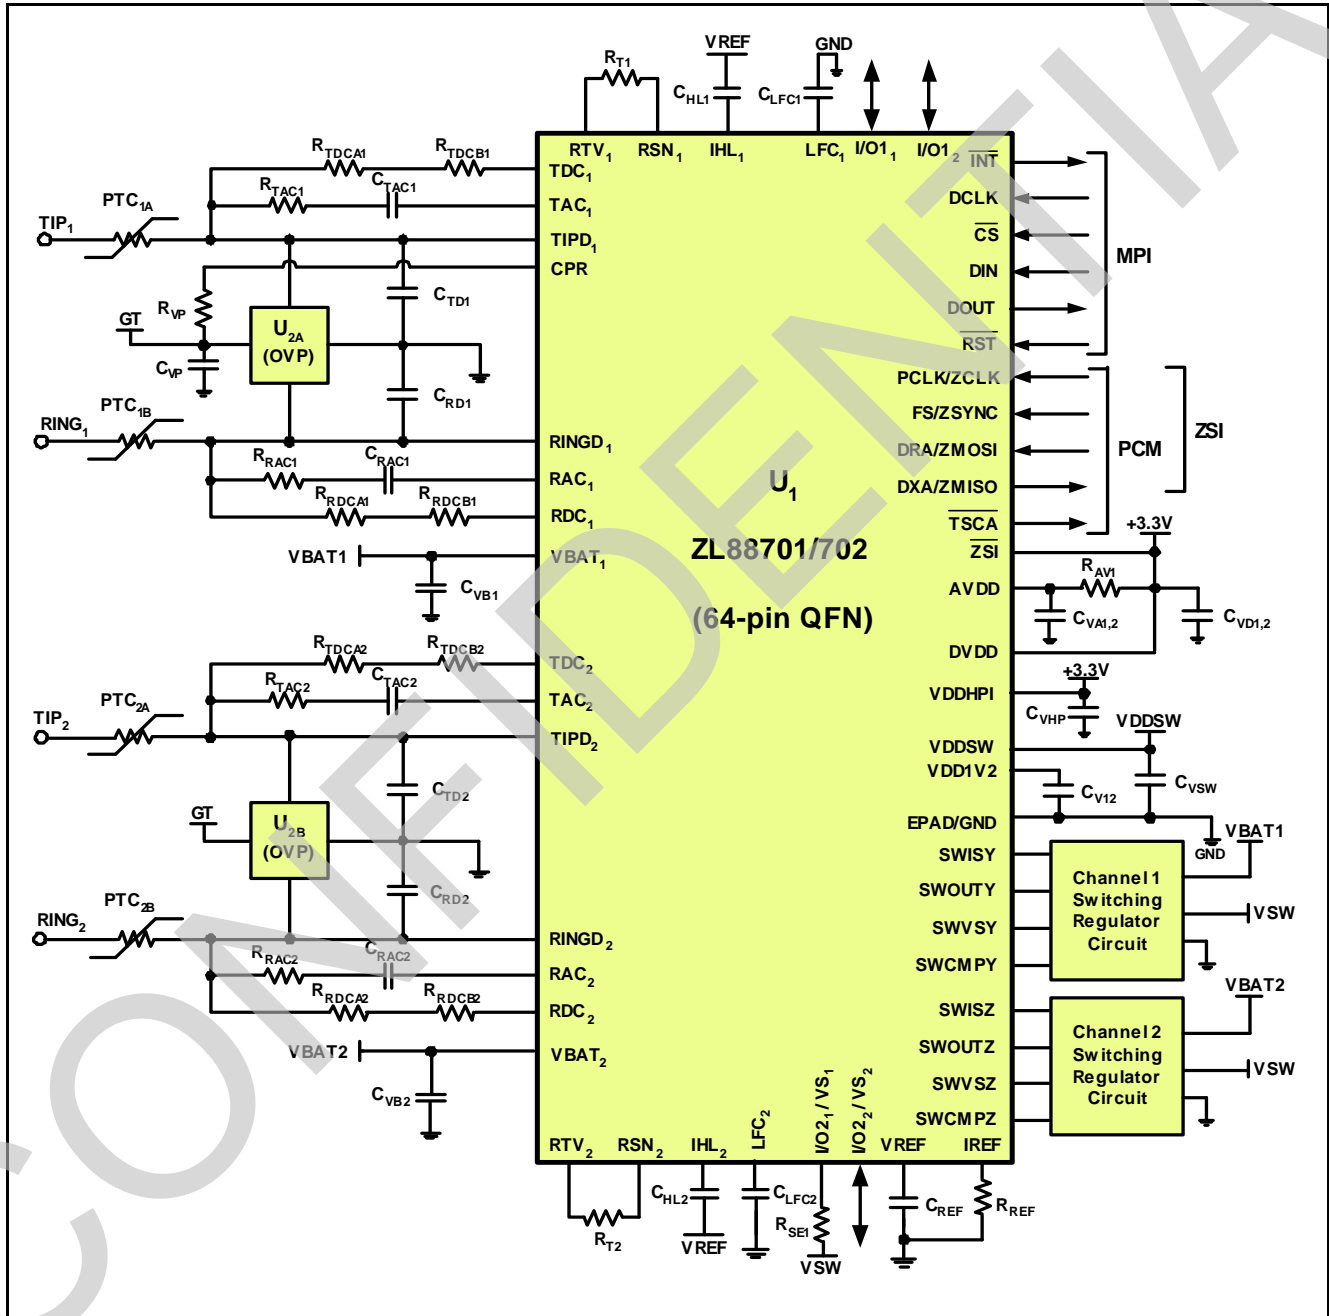
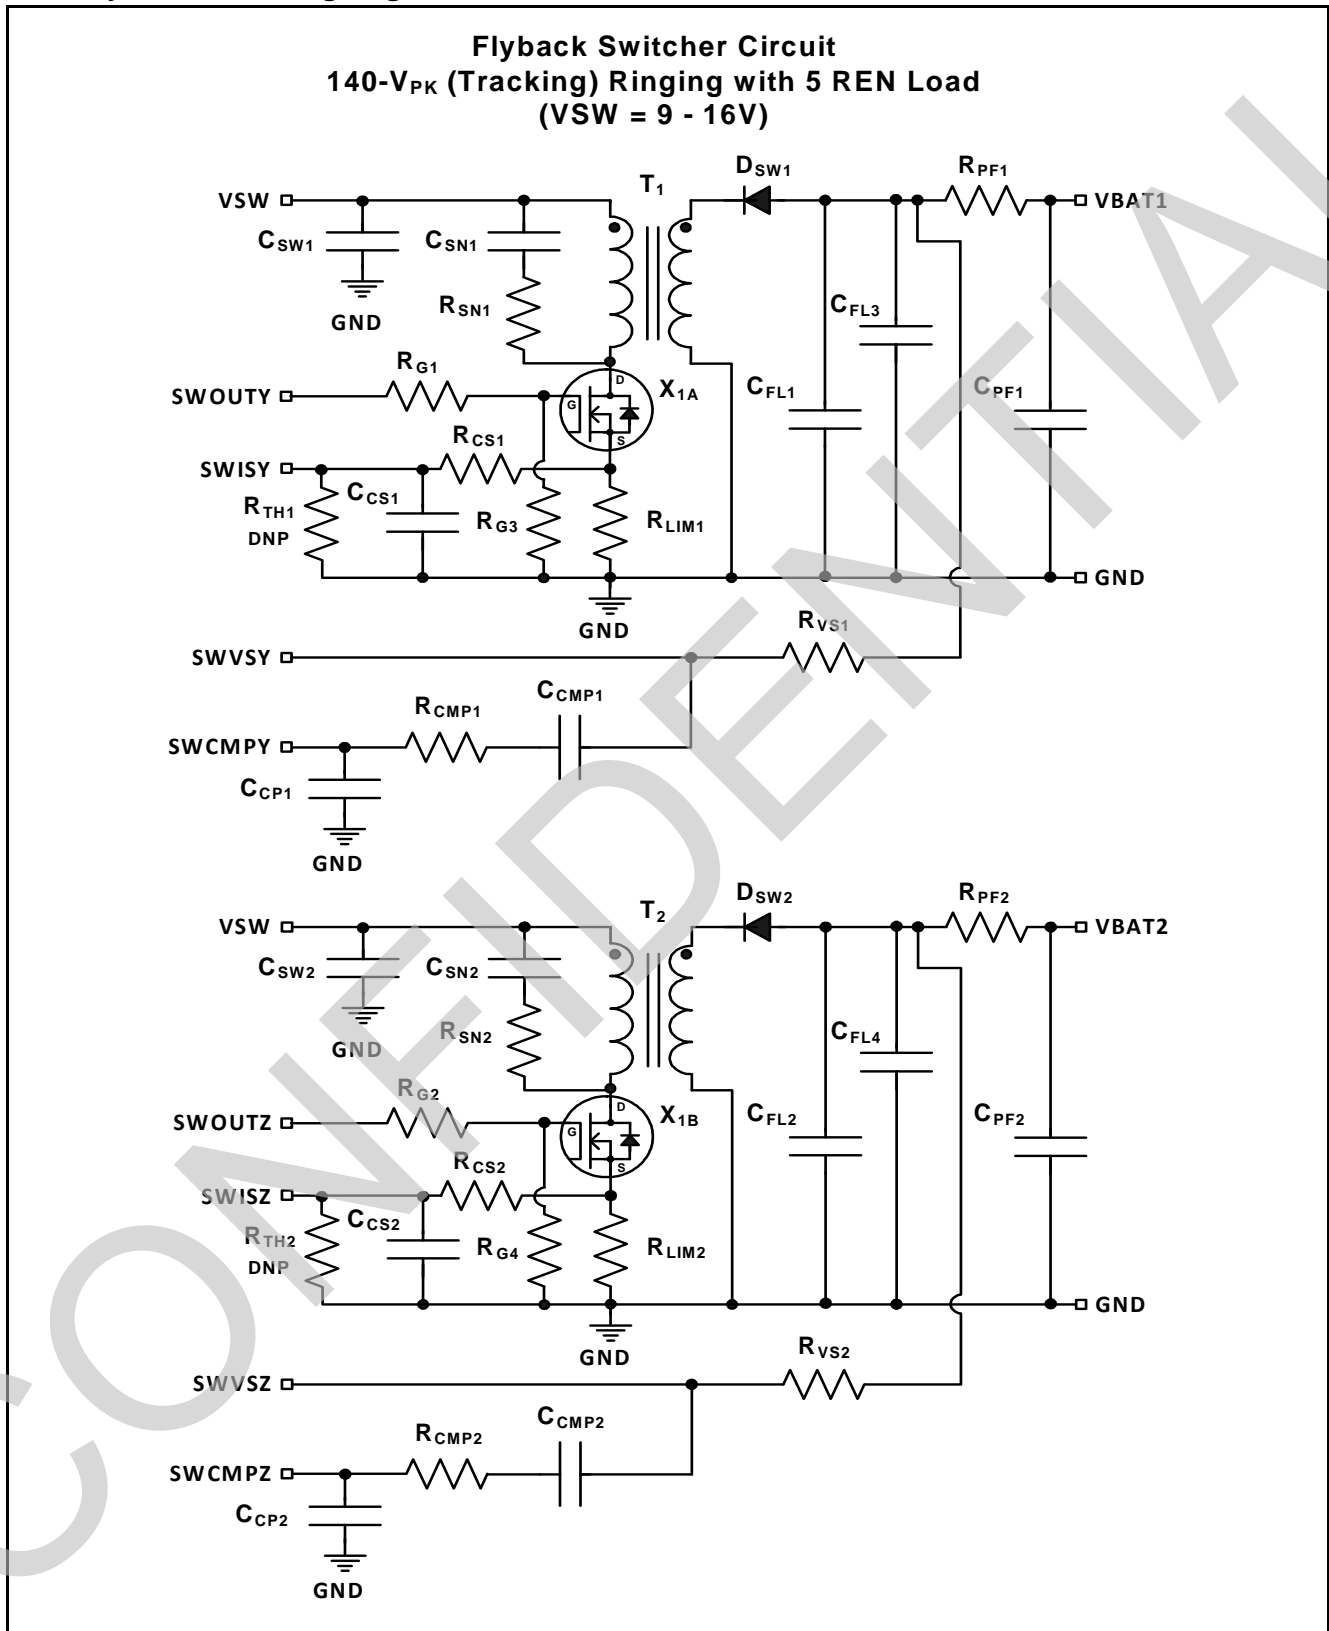
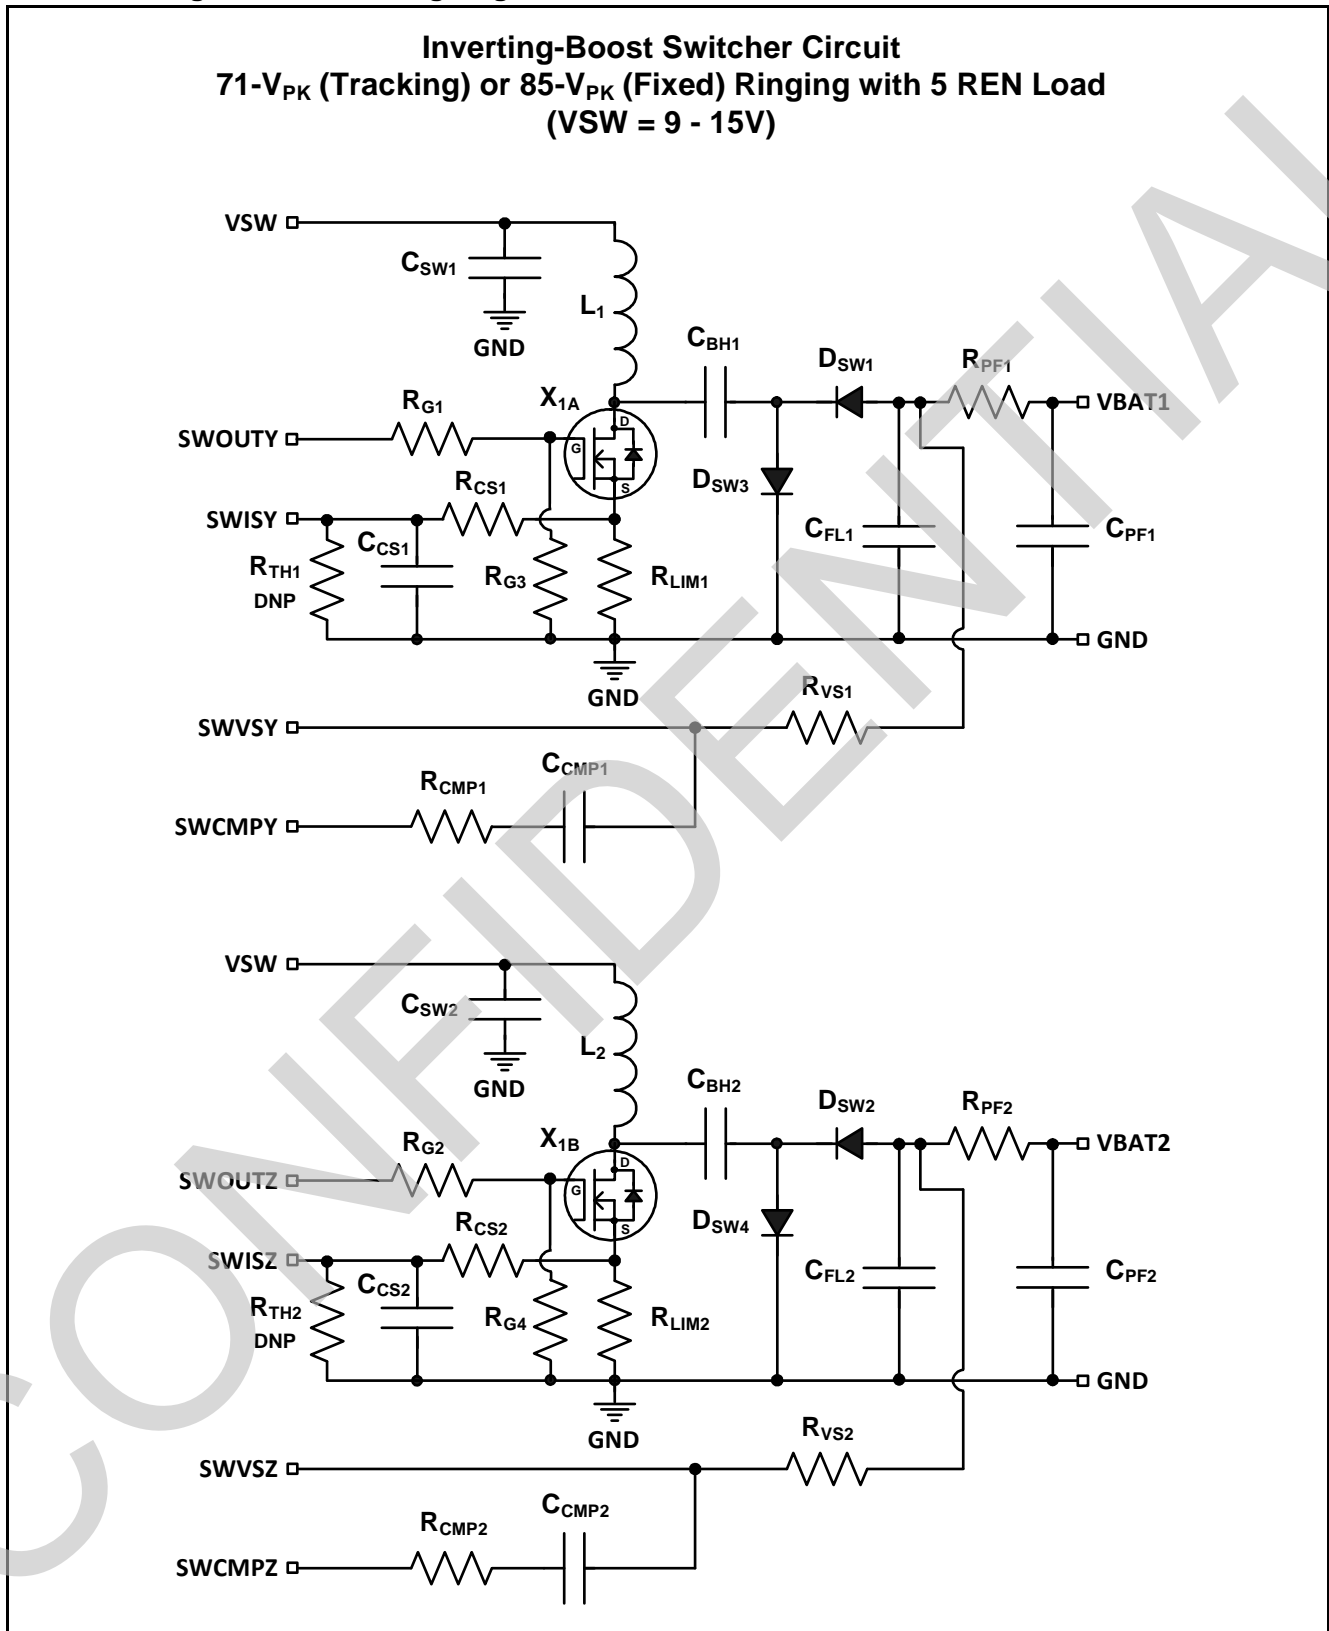

Figure 42 - ZL88701/702 Line Interface Circuit
Figure 43 - Flyback Switching Regulator Circuit (140-VPK Ringing)
Figure 44 - Inverting-Boost Switching Regulator Circuit (85-VPK Ringing)
Figure 42 below shows a typical line interface circuit for the ZL88701/702 configured for operation in the PCM and SPI mode. Decoupling, filtering, and reference generation components are also shown. Two example switching regulator circuits are shown in Figure 43 on page 60 and in Figure 44 on page 62.
- For designs with maximum ringing ≤ 85 VPK, consult Microsemi for the recommended capacitor values or use the inverting boost switching circuit shown in Figure 44 on page 62 for a lower BOM cost.